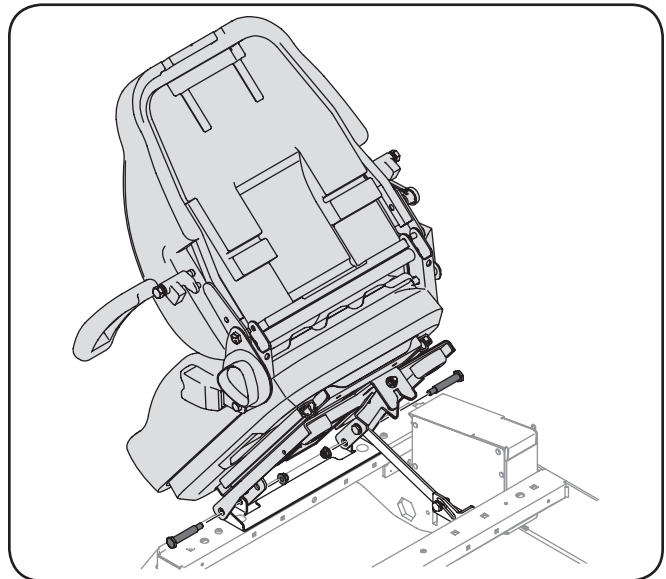

Figure 3-10
1. Remove the two flange lock nuts, washers and shoulder bolts from the manual bag. See Figure 3-10.
2. Place the seat into position and secure the seat into place with the hardware as shown in Figure 3-10.